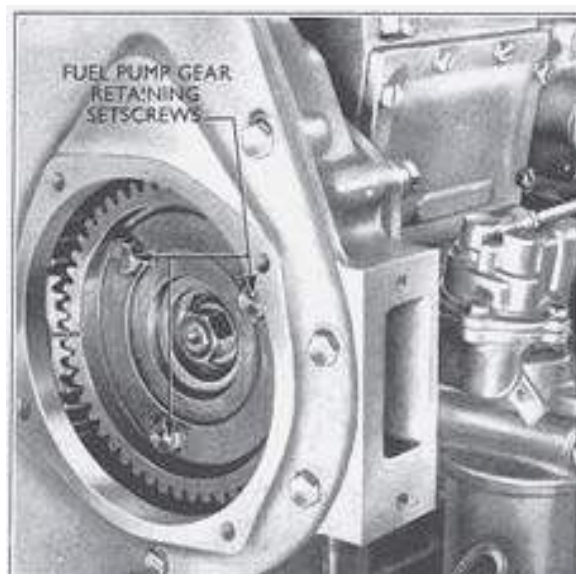

Fig. 8
4. Slacken the three setscrews securing the fuel pump gear to the fuel pump gear adaptor (see Fig. 8), and turn the fuel pump camshaft, using a suitable spanner on the adaptor retaining nut, until the timing marks coincide.